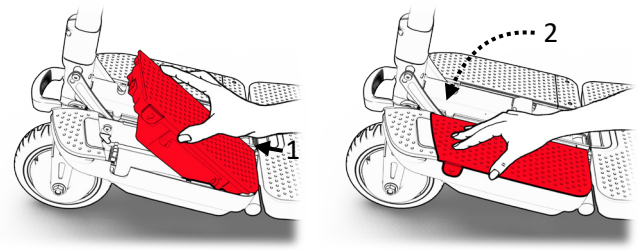

Figure 55
To install the battery, insert first the back end of the battery (1) and then push the front until the battery clicks and locks in place (2). (See Figure 55).